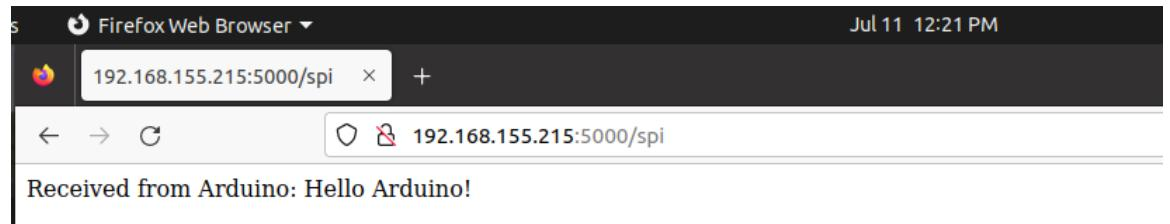

Figure 1.8: Website
1.6.2.7. In the website loaded by the IP address of Vaman-ESP32 is to establish a WiFi connection, exchange data with a server using the SPI protocol, handle received data, and communicate with the server using HTTP requests as shown in Figure 1.8.